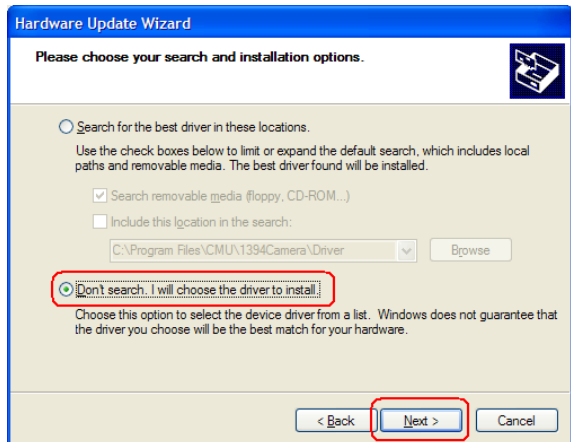

Figure 3.10
- c. Don't search; choose the driver to install (**Figure 3.10**).